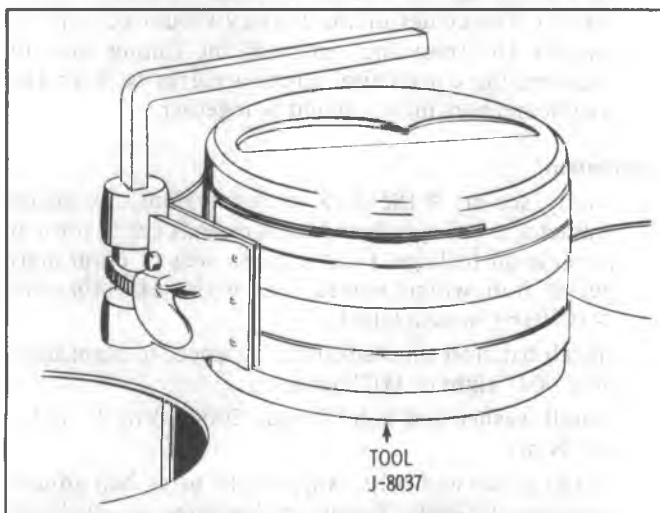

Fig. 6A6-77--Piston Ring Compressor
2. Apply engine oil to rings and piston, then install piston ring compressing tool on piston. (Fig. 6A6-77).